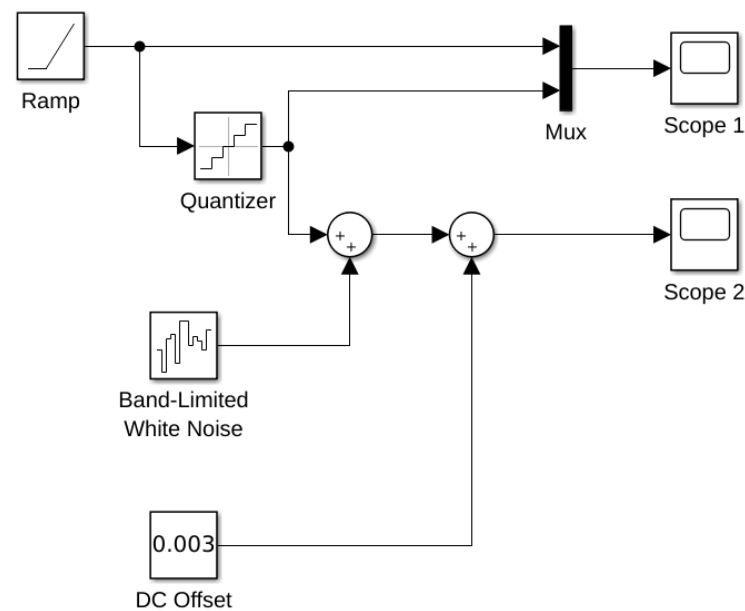

Figure 2: Simulink Diagram for Quantization Error
- (e) Connect your blocks as in Figure 2 below. Here, note that the name of the *Constant* block is changed to “DC Offset”. The scopes are named “Scope 1” and “Scope 2”. These are intentional and will be explained in the next subsection.
- (b) First, examine Scope 1 (refer to Figure 2 for naming). Here, the yellow line is the analog ramp input that we want to produce. However, our DAC is  $\pm 10$  V and 12-bits. As a result, the resolution of our DAC is approximately 4.88 mV (refer to Appendix B.2 to learn how to calculate this). That's why, the blue stepped signal is the best that we can get out of this DAC.